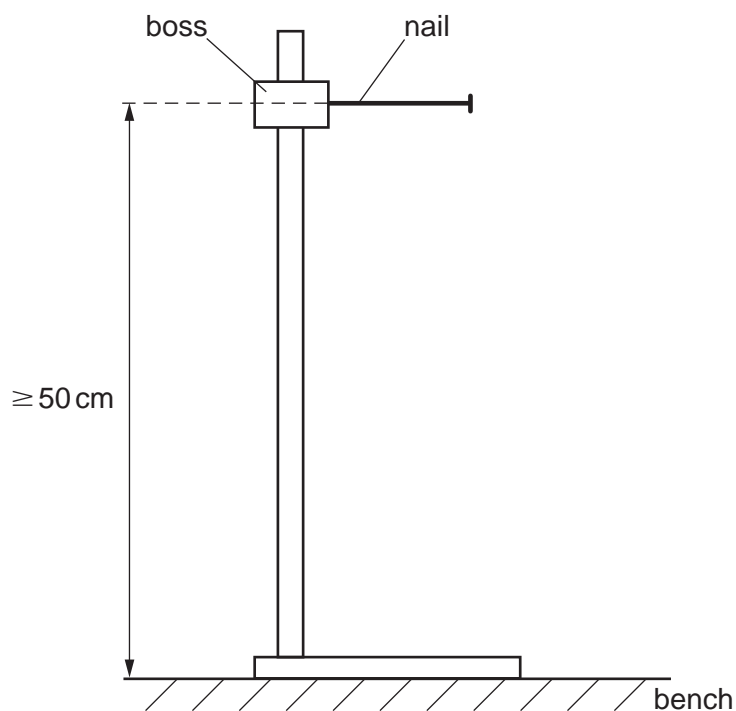

Fig. 1.3
- 2 The nail should be mounted horizontally on the retort stand, at a minimum height of 50 cm above the bench, as shown in Fig. 1.3.